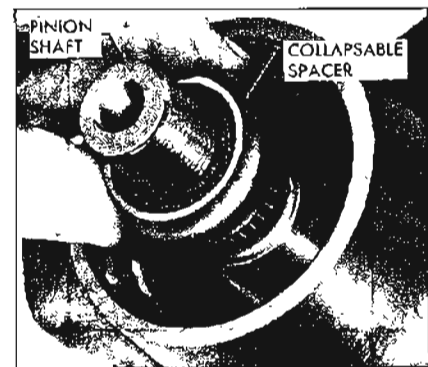

Figure 6-24—Installing Collapsible Spacer
1. Position pinion assembly in carrier and install collapsible spacer as shown in Figure 6-24.